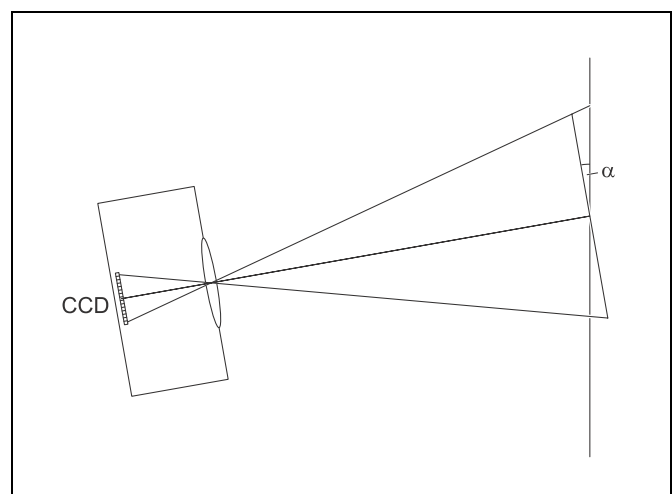

Fig. 2 Diagram defining the angle  $\alpha$  between VideoCom and the path of fall.
- If an angle  $\alpha > 1^\circ$  is indicated, the alignment of VideoCom is not yet sufficiently perpendicular (see Fig. 2):